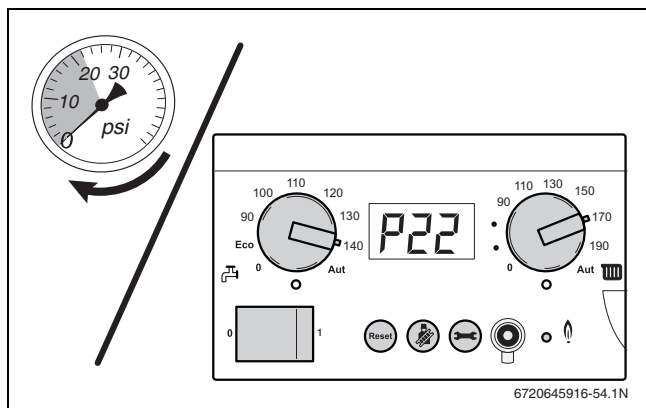

Fig. 58 Reading the pressure gauge
- Read the pressure (PSI) from the pressure gauge on the pump group or on the control panel of the BC10 (→ fig. 58).